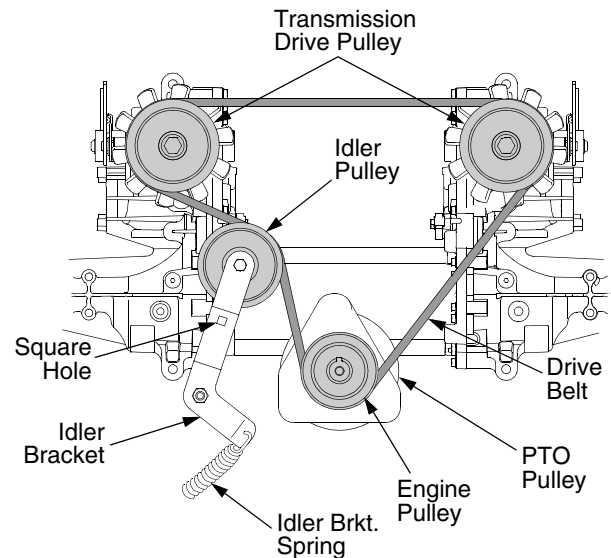

Figure 26
- From beneath the rear of the tractor, insert a 3/8 inch drive ratchet into the square hole of the drive idler bracket. See Figure 26.